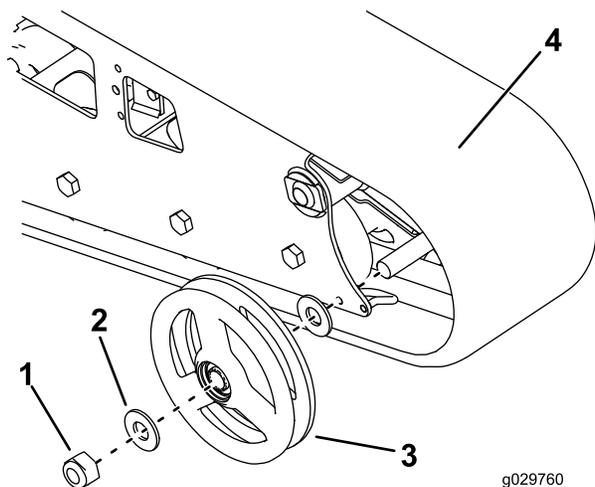

Figure 57
2. Remove the nut securing the outer front wheel and remove the wheel (Figure 57).
3. Remove the track (Figure 57).
4. Pull the 2 large washers out of the outer wheels, 1 on each side of each wheel (Figure 57).
7. Install the new track. (Figure 57).
8. Install the outer front wheel and secure it with the nut removed previously (Figure 57).